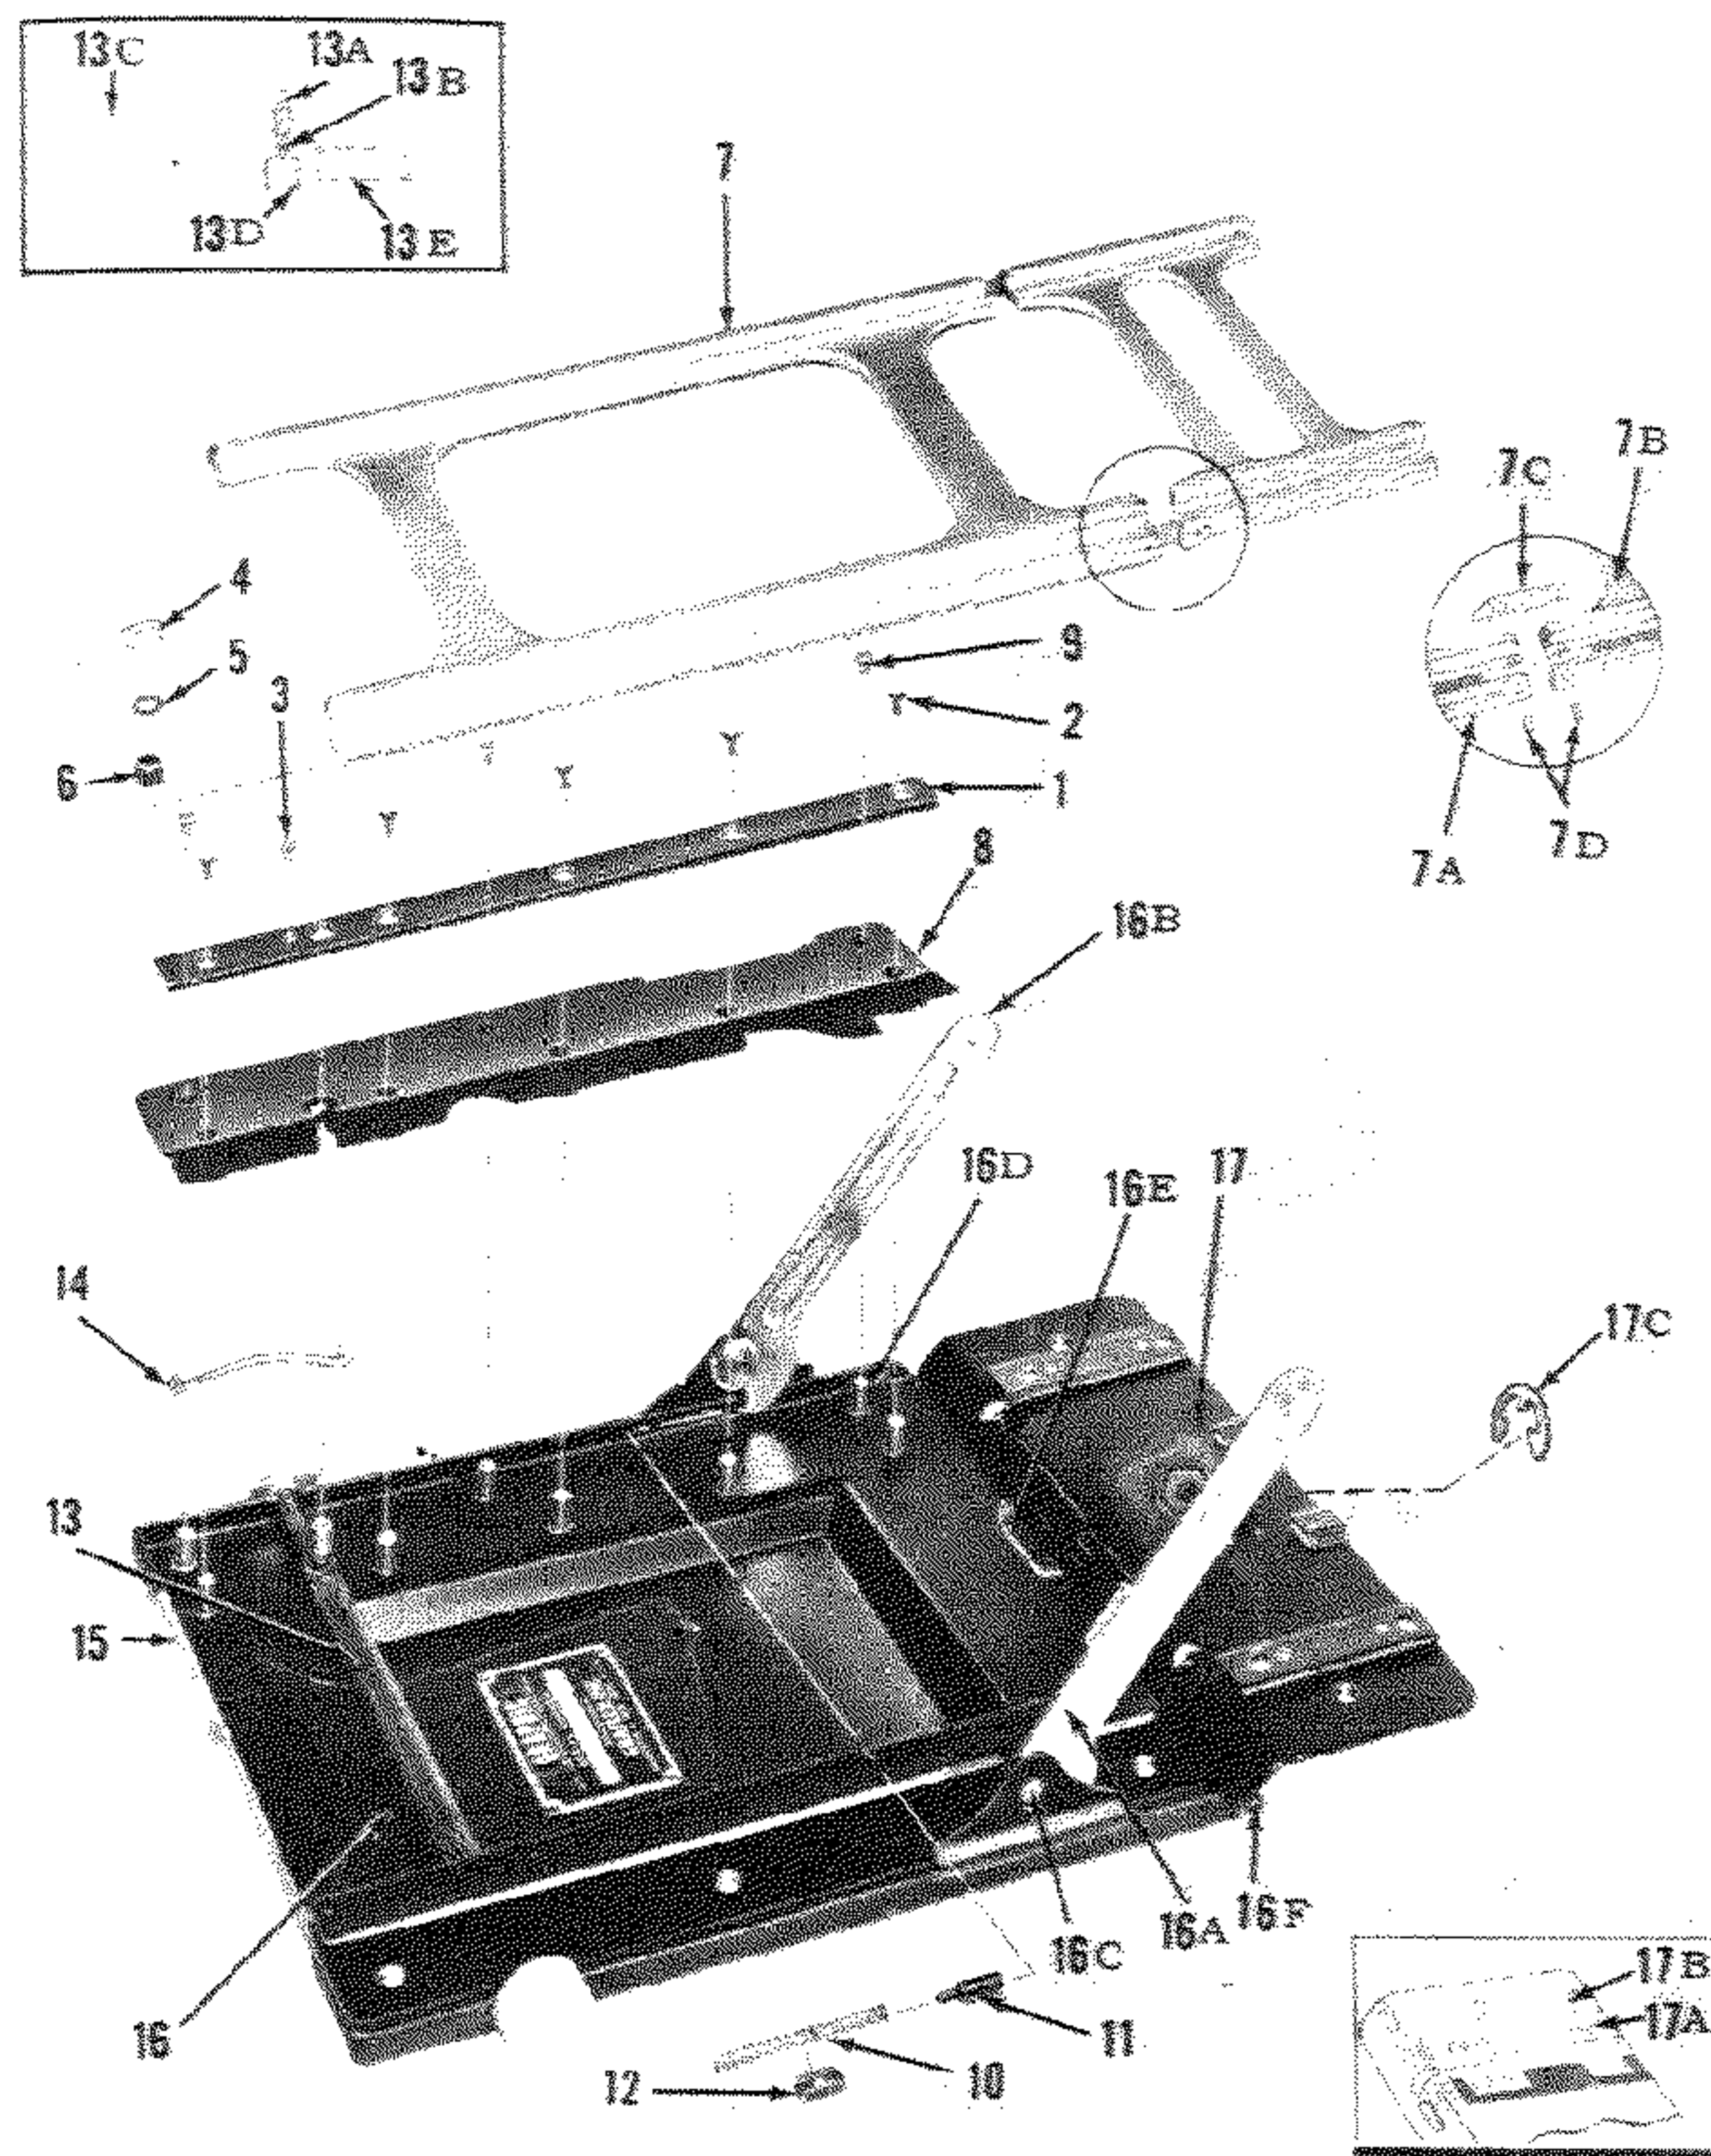
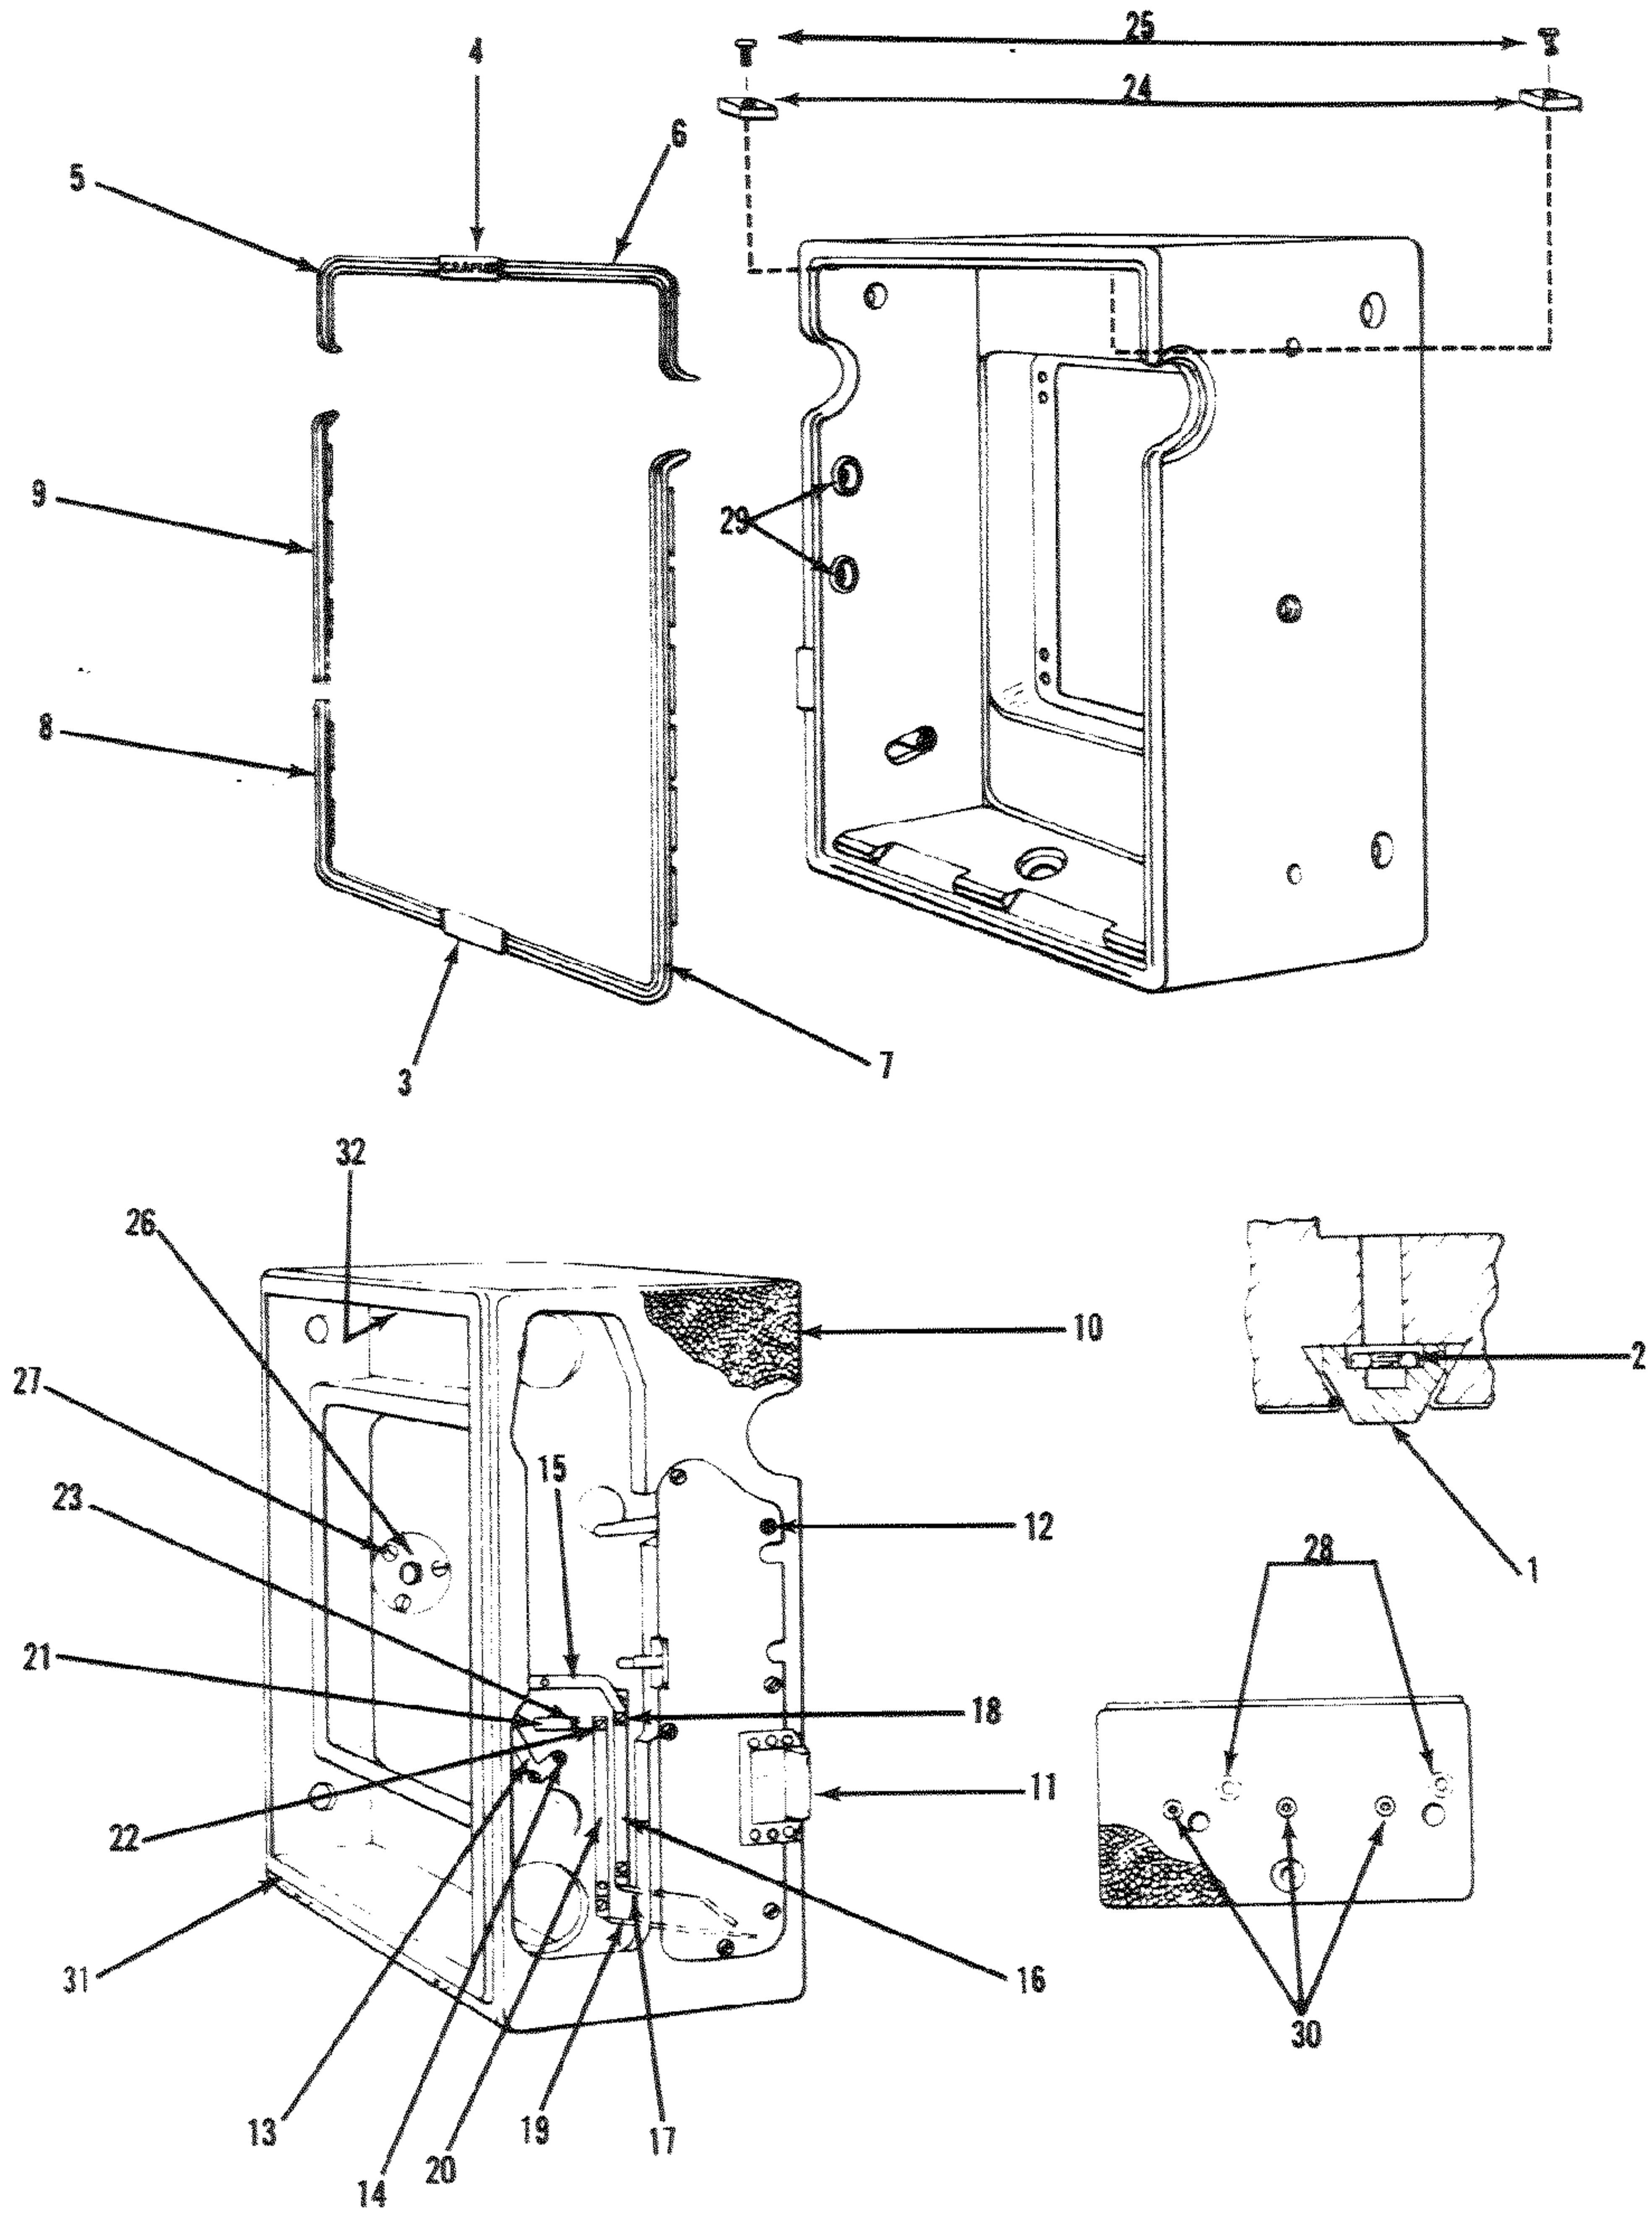

Figure 20. Bed Complete
Figure 21. BODY COMPLETE
Key to Figure 20.
c) From the bed hinge, remove two wood screws (38). Remove four yoke guide case screws (39) that are screwed into machine nuts (2, figure 21) located in the case feet (1).
b) Remove the bed section guide (1, figure 20) by removing machine screws (2).
c) Rack the yoke assembly (7) forward until the rear case yoke section is free of the hinge guides. Lift the yoke assembly (7) from the bed.
d) Remove block screws (9, figure 20) from the bed block (8). When the bed block is lifted from its position care should be taken so that the bed brace spring (10) does not throw and lose the bed brace plunger (11).
e) Swing the yoke lock lever (4, figure 20) clockwise so that the special fillister head screw (3) can be removed. Unscrew the yoke lock lever (4). Remove the flat washer (5) and the yoke lock sleeve (6).
g) Lift the pinion assembly (13) from the bed. Do not lose the focusing pinion springs (14) at each side.
a) The case section guide (17A, figure 20) should have the sliding grooves wiped with a film of the above lubricant.
b) Assemble the case section guide (17A) to the hinge assembly (17) by using two dowel pins (17B) in each guide.
a) Position the focusing pinion assembly (13) in the bed with the yoke lock post (13D) on the right hand side. Position the focusing pinion spring (14) at the extreme inside end of the pinion.
Pinion assembly (13, figure 20) should be lubricated by wiping the small diameter of the shaft at each end with a reasonable amount being applied to the helical gear teeth.
The yoke assembly (7, figure 20) should have its guide edges wiped with lubricant and a reasonable amount applied to the gear teeth. Roll the yoke assembly (7) over the pinion assembly (13) to distribute the lubricant evenly and wipe off all excess.
a) To assemble the bed block (8, figure 20) insert the stud of bed brace plunger (11) into the bed brace spring into space provided on the under side of the bed block and hold in position by use of the spring retaining clip (12) that clips around the spring and over the rib on the bottom of the block. Check the position of the focusing pinion spring (14) so that it will fit in the block cavity that is provided. Lower the block into position over the guide and block screw bushings (16D). Be sure that the edge of the leather is tucked in between the block and the bed. Assemble three bed block screws (9).
a) Assemble the right bed section guide (1, figure 20) and attach with five machine screws (2).
b) Insert the yoke lock sleeve (6) and assemble the flat washer (5), if required. This flat washer is a spacer washer that may or may not be needed, depending on the position of the yoke lock lever when it is assembled.
c) Assemble the yoke lock lever (4) and tighten. Note the position and if the lever does not tighten in convenient position it should be removed and the thread started in a different position; it has a triple
d) After the yoke lock lever position has been found to be satisfactory, assemble the special fillister head screw (3).
b) Position the left bed section guide and assemble five machine screws (2, figure 20).
c) With the bed section guide screw (2) loosened on both sides, slide the yoke back so that the case section will partially engage in the case section guide (17A). This will center the front section in relation to the case section. Draw both bed section guides (1) together evenly with the fingers and tighten the guide screws (2) on both sides.
a) Place the bed in position in the camera case and reassemble four yoke guide case screws (39, figure 3) that are screwed into the machine nut (2, figure 21) located in the foot (1). Assemble two wood screws (38, figure 3).
b) Engage each bed brace (16A and 16B, figure 20) with its proper bed brace plate (34 and 35, figure 3). Allow the bed brace arm to slide freely in the slot and assemble the mounting screw in the old mounting hole.
c) Next check the top surface of the yoke assembly (7, figure 20). If the top surfaces of the yoke guide are not level, the front standard will not slide smoothly on the yoke. If necessary, shim the case section guide as follows:
1. Remove the release slide plate (11, figure 21).
2. Remove the right focusing knob escutcheon (51, figure 3) that is held by escutcheon pin (52). Pry up the right moulding (9, figure 21) and the right edge of the lower right moulding (8).
6. Remove six wood screws (12, figure 21) that secure the body release plate assembly (11), and remove the plate assembly.
2. Inspect the short and long switch contacts (17 and 19, figure 21). These contacts complete the focal plane synchronization circuit and are closed by pressure action of the long lever inside the plate that has the insulated spring terminal bushing. If this insulated bushing has become worn so that the lever might make contact with the short switch contact (17) the body release plate assembly (11) must be replaced.
1. Position the body release plate assembly (11, figure 21) and assemble six wood screws (12).
1. To remove the side tripod socket (26, figure 21) it is first necessary to remove the right bed brace plate (35, figure 3) as described in paragraph V.B.2. Remove the three flat head wood screws (27 figure 21) securing the tripod socket.
Key to figure 21.